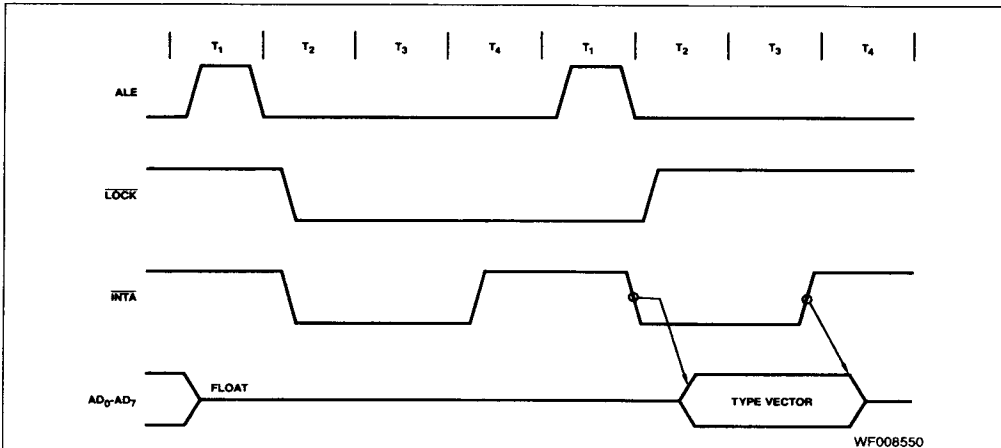

Figure 1. Interrupt Acknowledge Sequence
During the response sequence (see Figure 1), the processor executes two successive (back to back) interrupt acknowledge cycles. The 8088 emits the LOCK signal (maximum mode only) from T2 of the first bus cycle until T2 of the second. A local bus "hold" request will not be honored until the end of the second bus cycle. In the second bus cycle, a byte is fetched from the external interrupt system (e.g., 8259A PIC) which identifies the source (type) of the interrupt. This byte is multiplied by four and used as a pointer into the interrupt vector lookup table. An INTR signal left HIGH will be continually responded to within the limitations of the enable bit and sample period. The interrupt return instruction includes a flags pop which returns the status of the original interrupt enable bit when it restores the flags.
The basic difference between the interrupt acknowledge cycle and a read cycle is that the interrupt acknowledge (\overline{INTA}) signal is asserted in place of the read (RD) signal and the address bus is floated (see Figure 1). In the second of two successive \overline{INTA} cycles, a byte of information is read from the data bus, as supplied by the interrupt system logic (i.e., 8259A priority interrupt controller). This byte identifies the source (type) of the interrupt. It is multiplied by four and used as a pointer into the interrupt vector lookup table, as described earlier.